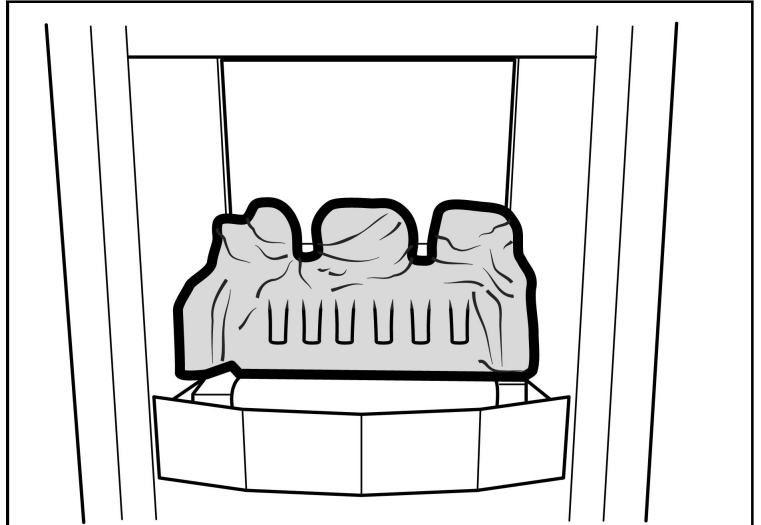

Figure 24. Rear Base Coal Position
1. Place the rear base coal in the firebox. It should rest on the ledges at the rear sides of the burner unit. When located gently move the rear base coal so that it is as far forward as possible. The amount of movement will be negligible (See figure 24).